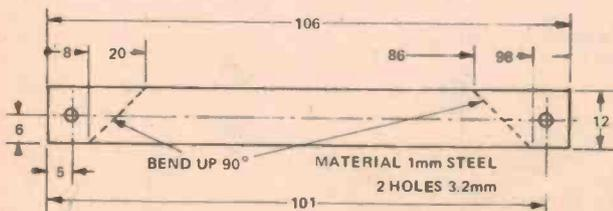

Fig 3. The bracket used to support the rear panel.
Assemble the components as shown in the overlay diagram, Fig. 3. Resistors R1 and R2 are mounted vertically. Take care that the capacitor (C), which is an electrolytic tantalum type, is mounted the right way round. These capacitors are not marked with positive and negative signs so you have to know the rule: When you hold the capacitor so that the coloured dot is facing you, the right hand lead is the positive one. This lead must go into hole D2 as shown in the overlay diagram.